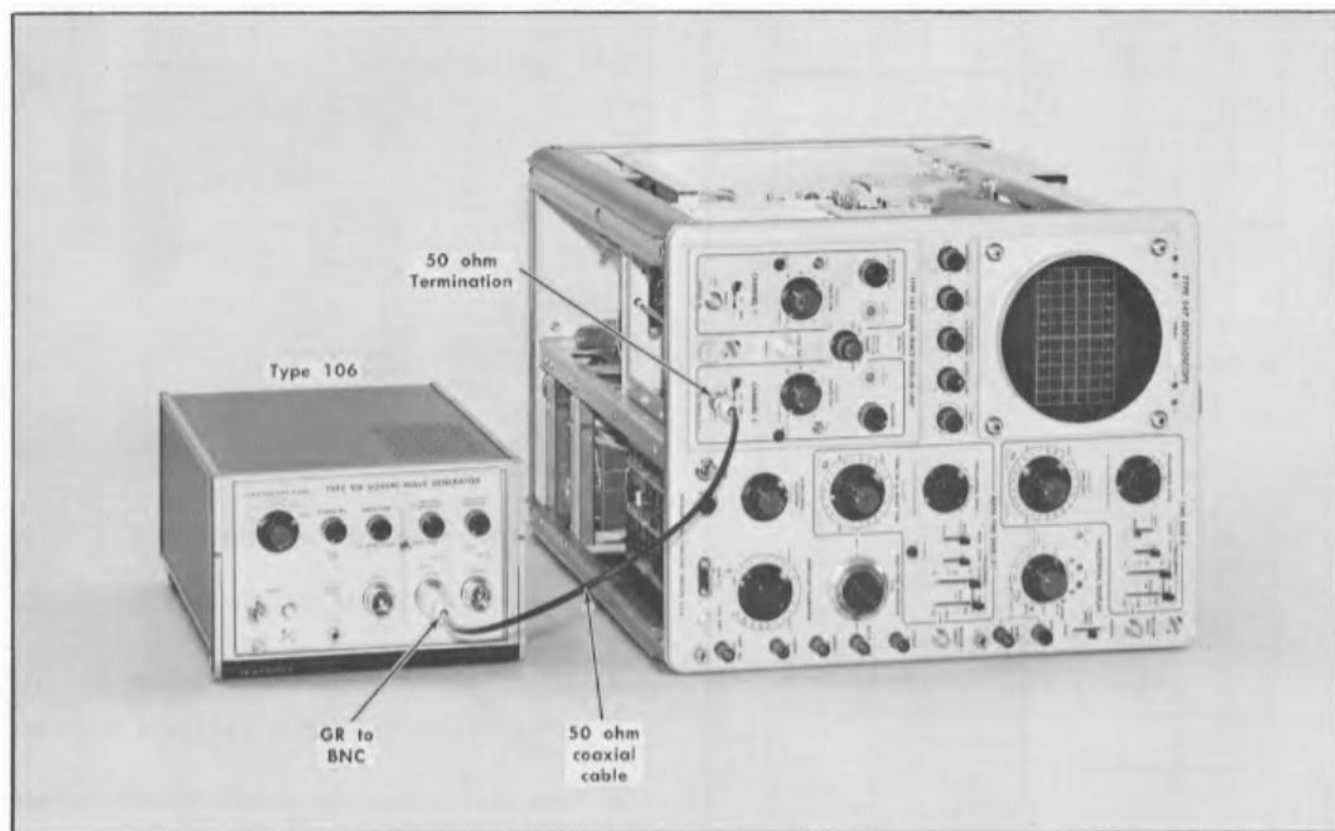

Fig. 7-13. Initial equipment setup for step 20.
20. Adjust High-Frequency Compensation ①
- a. Equipment setup is shown in Fig. 7-13.